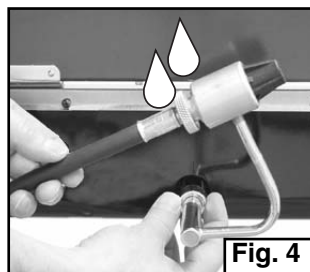

Fig. 4
- Perform leak check on Hose to Regulator, and Hose to Cylinder connections with soapy water. Bubbles indicate a leak. Check that the connection is not cross-threaded and that it is tight. Perform another leak check. If there is still a leak, remove the cylinder and contact Coleman for service or repairs. (Fig. 4 and 5)